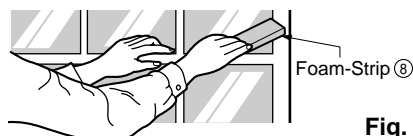

Fig. 8
- 11 Cut the Foam-Strip ⑧ to the proper length and insert between the upper window sash and the lower window sash. (See Fig. 8)